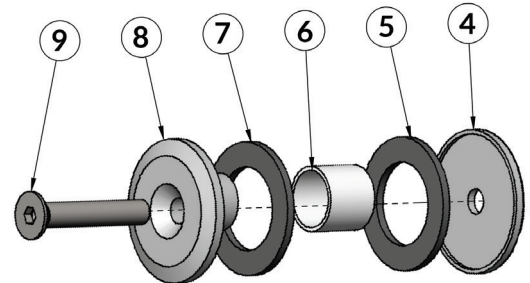

FIG 22.
- Using the wooden wedges to raise and lower the door, use the allen key to engage and screw in the bolt (**9**, **FIG 22**).
- Make sure the nylon washers are flat against the glass so no metal contacts the glass (**5 & 7**, **FIG 22**).